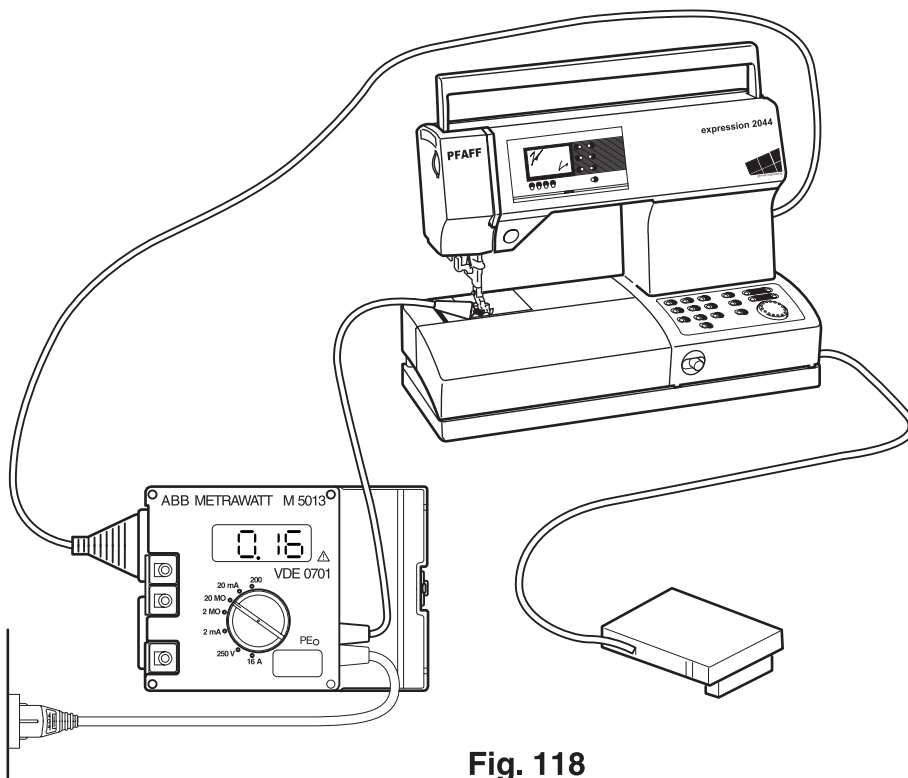

Fig. 118
- Set knob for measuring range at "20 mA" (fig. 118).